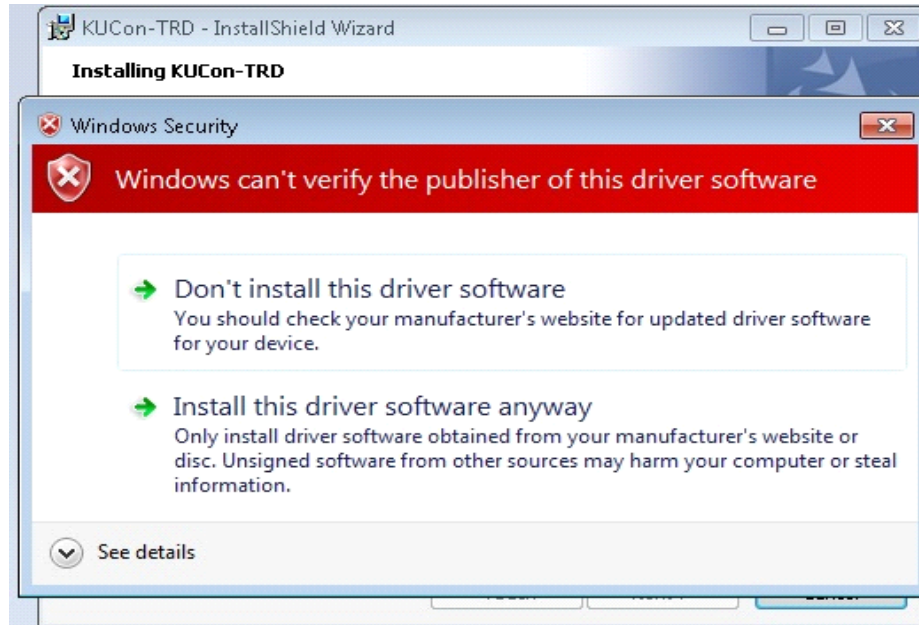

Figure 2-6: Ignore Windows Security Alert
5. A warning screen is displayed while installing the drivers, as they are not signed by a trusted certificate authority yet. To install the drivers, ignore the warning message shown in Figure 2-6 and click **Install this driver software anyway**. This warning message pops up two times so repeat this step accordingly.